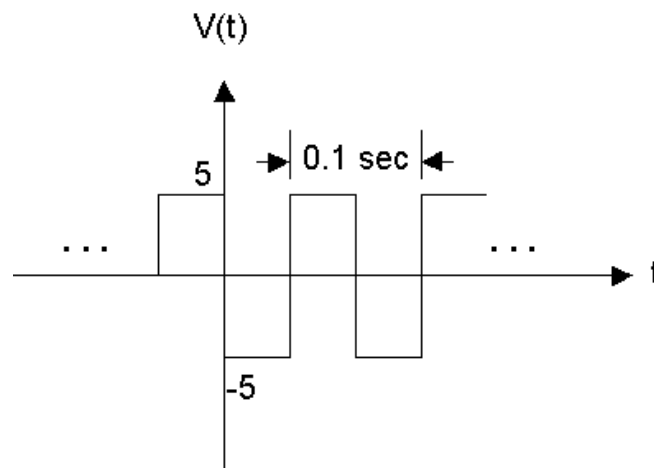

Figure 8. Diagram of desired output from the signal generator for Part 3.
3.1 Configure the **Function Generator** to produce a 10 Hz **square wave** with 5 volt (10 V peak-to-peak) amplitude, as in Figure 8 below. Verify the signal on the oscilloscope using a BNC to BNC connector.